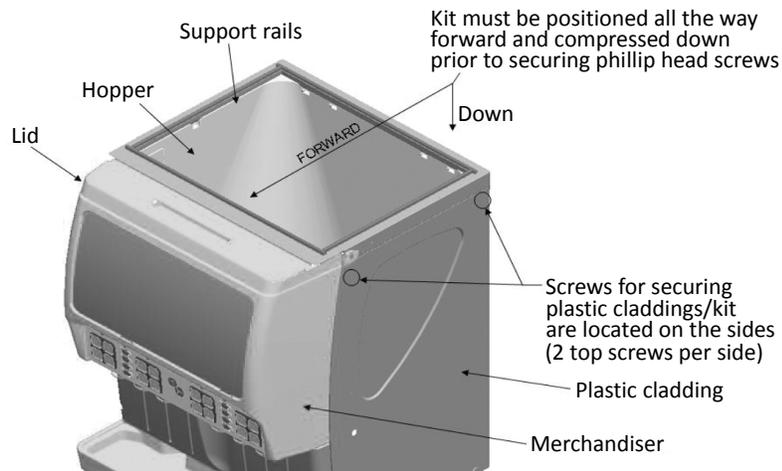

Figure 3. 30" Kit Shown, 22" Kit Mounts to Dispenser the Same Way
4. Replace the four screws removed in Step 2. Remember, the kit should be all the way forward and compressed down before tightening the screws. Otherwise, undesirable gaps may result (lid to merchandiser) and the internal latch feature for the lid may not function properly, refer to Figure 3.